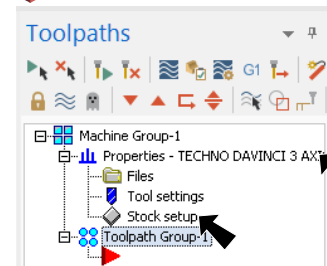

Fig. 1
Step 4. Expand **Properties** (click +) in Toolpaths Manager, **Fig. 1**.